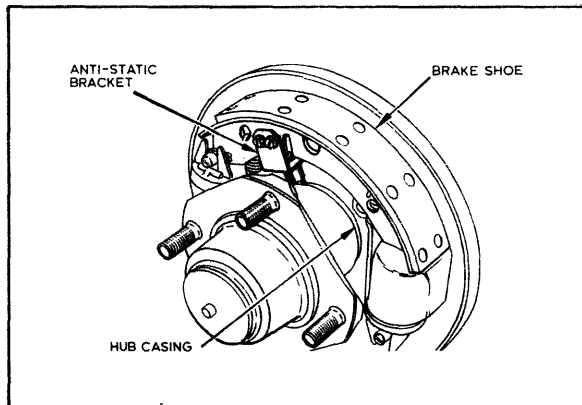

Fig. 11 Brake Shoe Fitting
5. Fit anti-static brackets to brake shoes (Figs. 11 & 12).